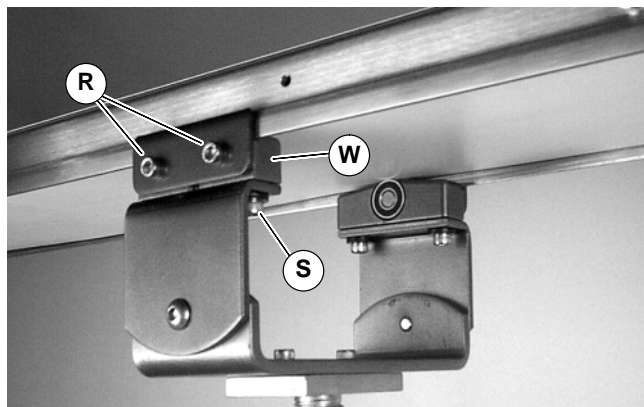

Figure 15
3. Install assemblies (W of Figure 15) on bottom of conveyor. Tighten bracket screws (R) to 80 in-lb (9 Nm).